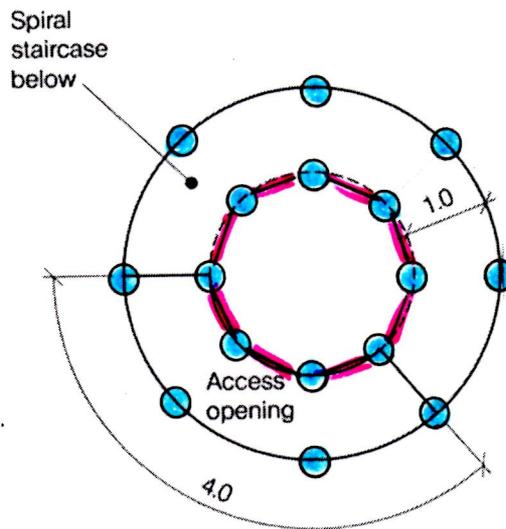

FIGURE 1b.
- to build a similar arrangement but inside the spiral staircase (this has the advantage of avoiding complications relating to the circular weatherproof envelope but has the disadvantage of being a more slender cantilever, see Figure 1b)